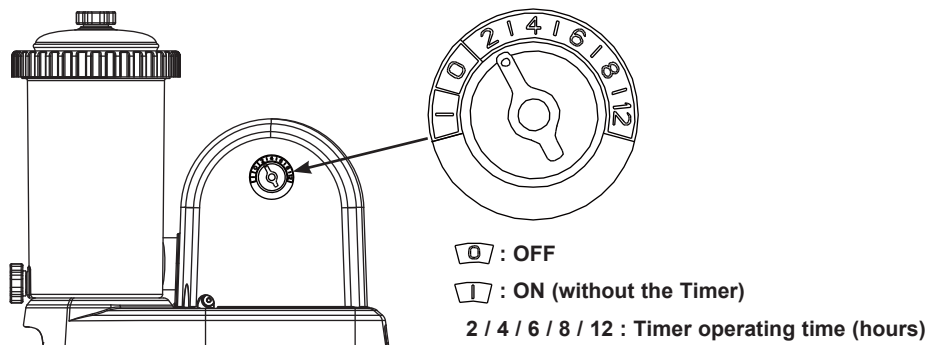

FIG 10
4. With water flowing into filter pump, the water pressure will allow the air trapped inside to escape from the air release valve (2). When all the air has escaped water will flow out of the valve (2). When this occurs gently finger tighten the valve (2) in a clockwise direction.
- A. Plug the the power cord into the electrical outlet and set the timer dial to the desired operating hours (see Fig. 10). See the "Operating Time Table" for the required operating hours related to each pool size.